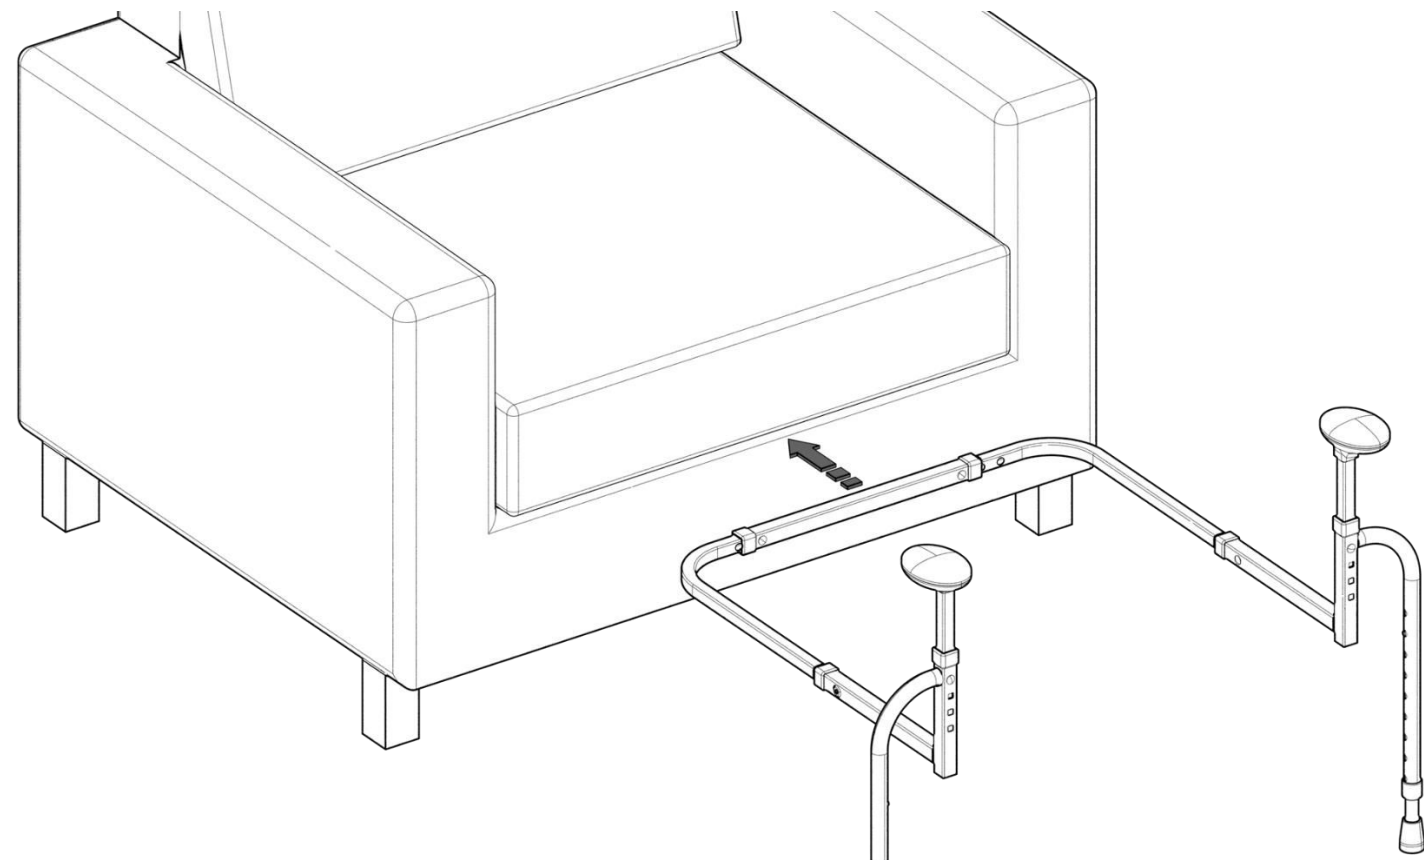

**FIGURE 5**
5. Place product base under or on top of chair/couch cushion as shown in *FIGURE 5*.